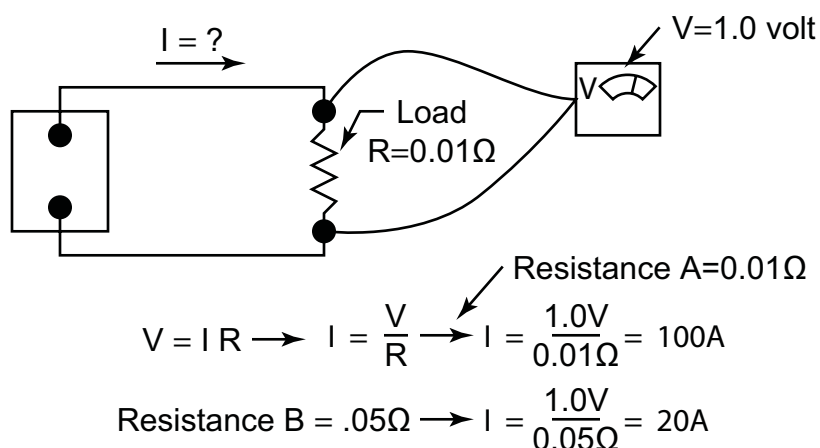

Figure 3: Ohm's Law Example
- ▶ Consider the circuit in Figure 3 with resistance  $A = .01\Omega$